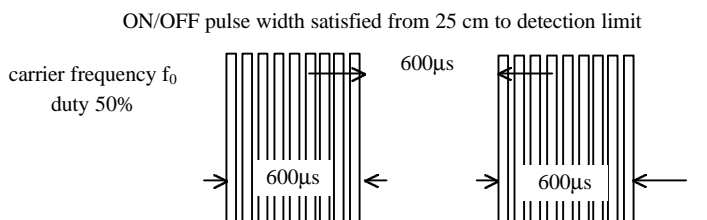

Fig 1. Burst Wave
- (1) Measuring placeIndoor without extreme reflection of light.
- (2) Ambient light source...Detecting surface illumination shall be 200 ± 50 Lux under ordinary hite fluorescence lamp of no high frequency lighting.
- (3) Standard transmitter ...Burst wave indicated in Fig 1. of standard transmitter shall be arranged to 50mVp-p under the measuring circuit specified in Fig 2.